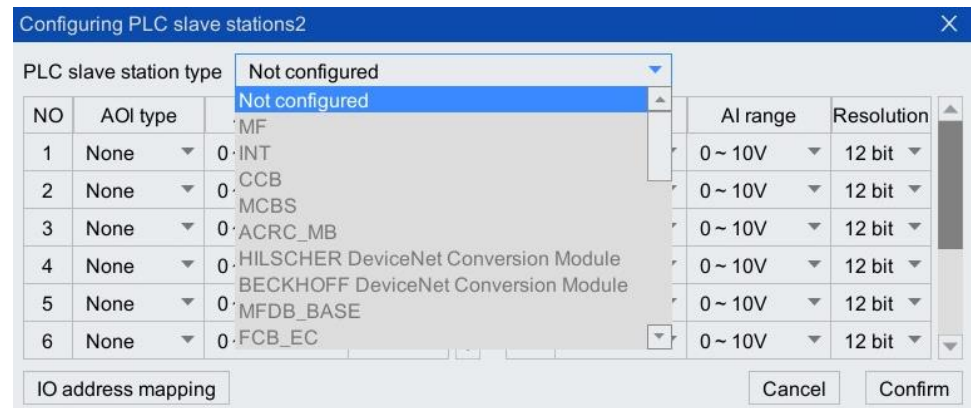

Figure 18-23 [Configure PLC slave station] interface
Step7. Select the serial number to be configured, click <Configuration>, and enter the [Configuration PLC Slave] interface. As shown in Figure 18-23.